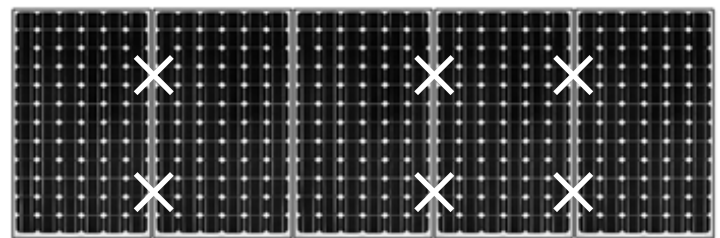

Figure 22
2) When there is an odd number of PV Module in each row: Install grounding clips at positions marked X in Figure shown. Then the number of Grounding Clips = number of PV Module + 1. Eg: 6 grounding clips as shown in Figure 22.